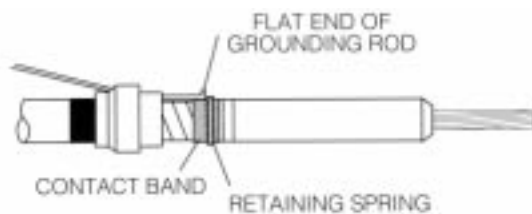

Figure 10.
- Remove retainer tape from metallic tape shield. Wrap contact band around exposed metallic tape shield and install contact band retaining spring. Position spring around contact band and against end of grounding rod. (Refer to Figure 10.)